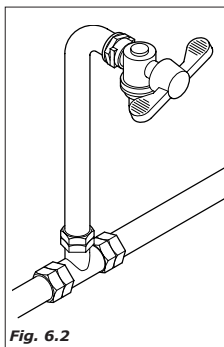

Fig. 6.2
- install, if not present, a tap in an accessible position to isolate the machine from the water mains should it be found to be necessary (Fig.6.2).